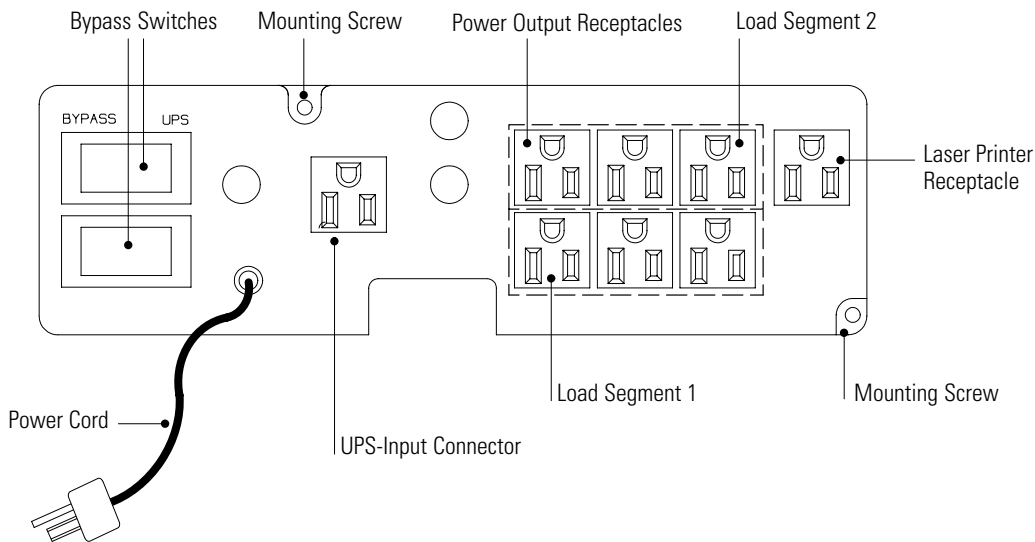
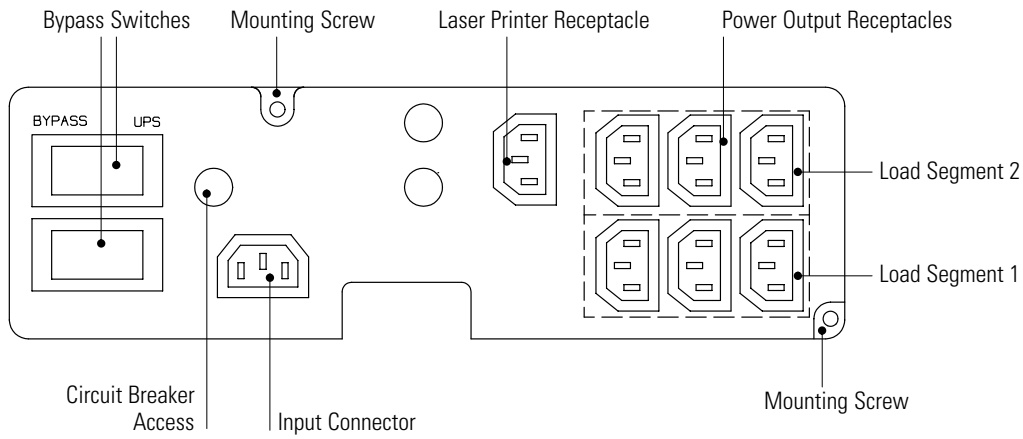

Figure 2. PowerPass for 700–1500 VA, 120V UPS
Figure 4. PowerPass for 700-2000 VA, 240V UPS
7. Verify that both Bypass switches on the PowerPass are in the UPS position (see Figure 2 through Figure 4).
Each PowerPass has two load segments as shown in Figure 2 on page 5 through Figure 4 on page 6.
1. Toggle both Bypass switches on the PowerPass to the BYPASS position (see Figure 2 on page 5 through Figure 4 on page 6). The PowerPass is now powering your equipment from utility power.